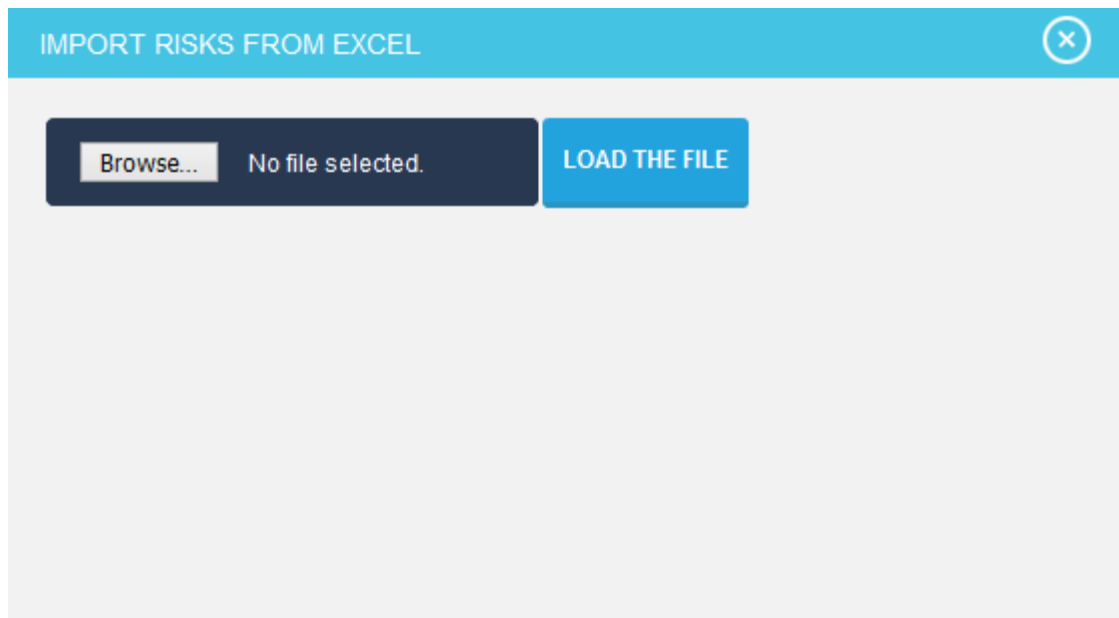

Figure 2.33
3. A popup appears, browse the file to be imported and upload. (Figure 2.33)